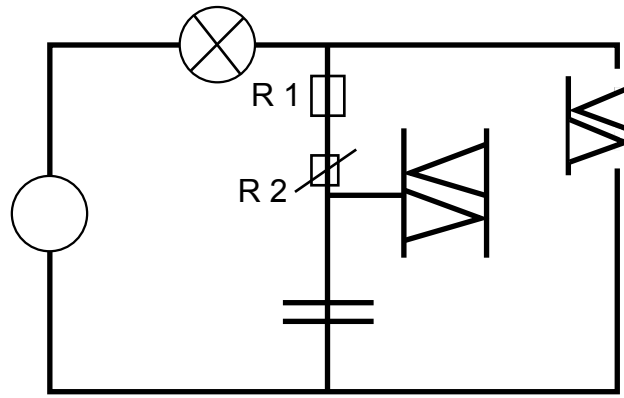

Fig. 17
- (f) The lamp-dimming circuit in fig. 17 is connected to a 12V - 20 volts supply.